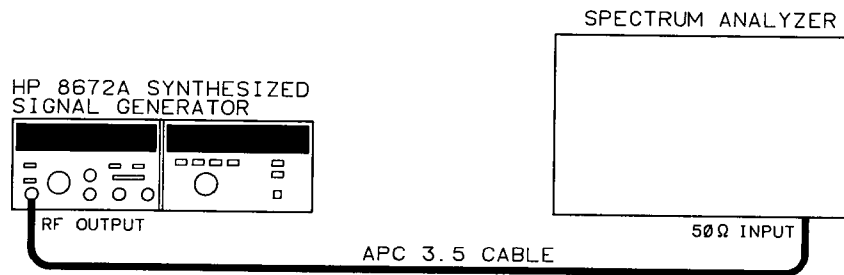

Figure 4-10. Non-Harmonically Related Spurious Signals Test Setup
1. Connect the Signal Generator's RF OUTPUT to the input of the spectrum analyzer as shown in Figure 4-10.